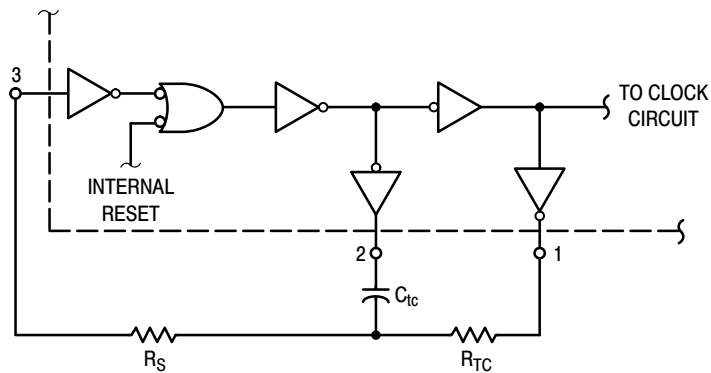

Figure 3. Oscillator Circuit Using RC Configuration
4. When using the on chip oscillator the total supply current (in µAdc) becomes: $I_T = I_D + 2 C_{tc} V_{DD} f \times 10^{-3}$ where I_D is in µA, C_{tc} is in pF, V_{DD} in Volts DC, and f in kHz. (see Fig. 3) Dissipation during power-on with automatic reset enabled is typically 50 µA @ V_{DD} = 10 Vdc.
The RC oscillator as shown in Figure 3 will oscillate with a frequency determined by the external RC network i.e.,